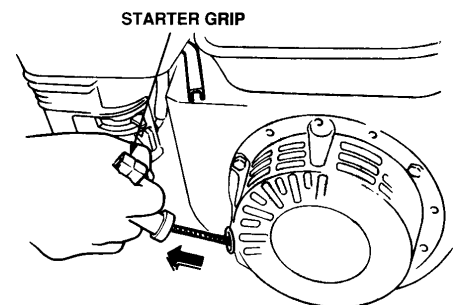

Figure 14. Starter Grip
5. Grasp the starter grip (Figure 14) and slowly pull it out. The resistance becomes the hardest at a certain position, corresponding to the compression point. Pull the starter grip briskly and smoothly for starting.